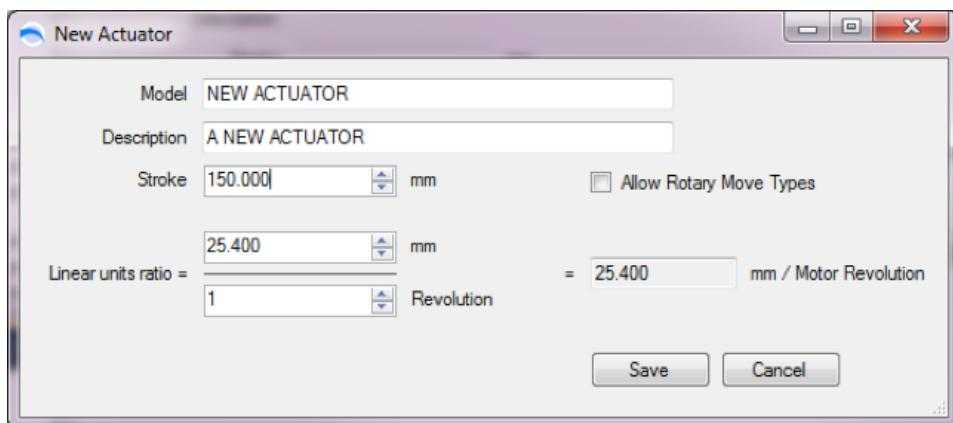

Figure 7-5: New Actuator Window
2. Clicking the New button, will bring up a New Actuator dialog in which the user must enter critical information about the actuator (see figure 7-5)